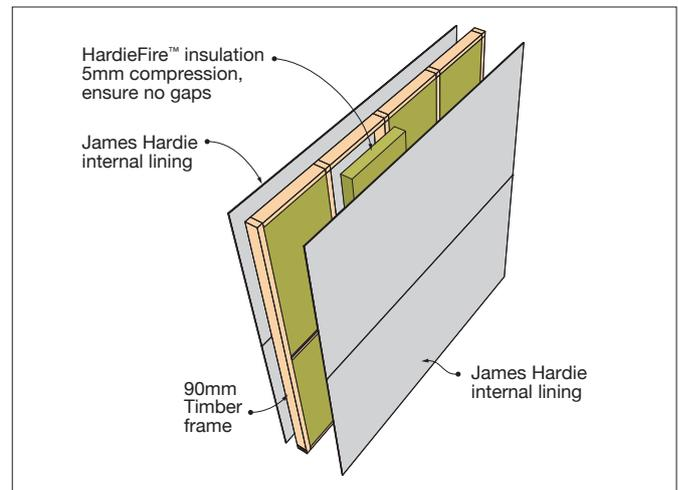

FIGURE 1 HARDIESMART™ AGED CARE WALL SYSTEM LAYOUT
**2. HARDIEFIRE™ INSULATION:** It must be used as the frame cavity infill and must be compressed 5mm at a minimum in both vertical and horizontal directions (i.e. Batt size must be at a minimum 5mm wider and longer than frame stud bay). **Ensure there are no gaps in the installation.** Please refer to figure 1 for more information on installation. If cutting is required, it is recommended to cut outdoors. If indoors, please ensure that workspace is properly ventilated and HEPA vacuums/dust extractors are used.